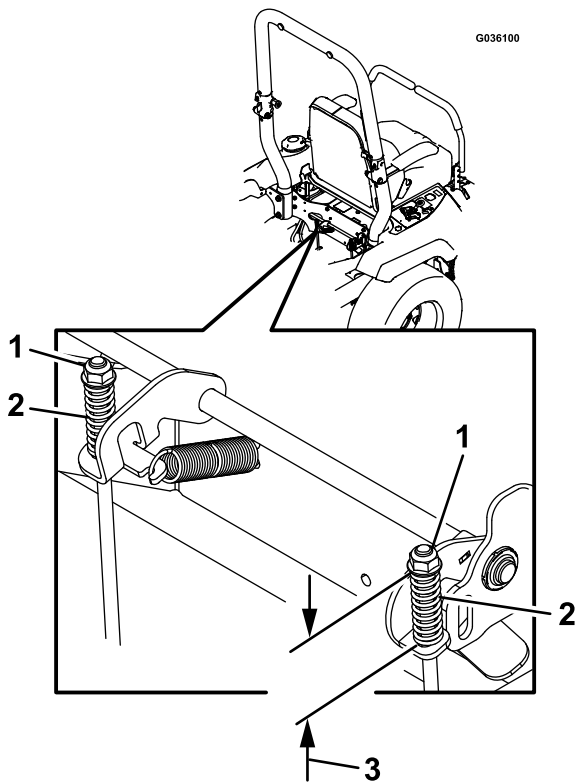

Figure 60
7. Check both spring lengths as shown in Figure 60. If an adjustment is necessary, turn the top nut clockwise to shorten the spring and counterclockwise to lengthen it.